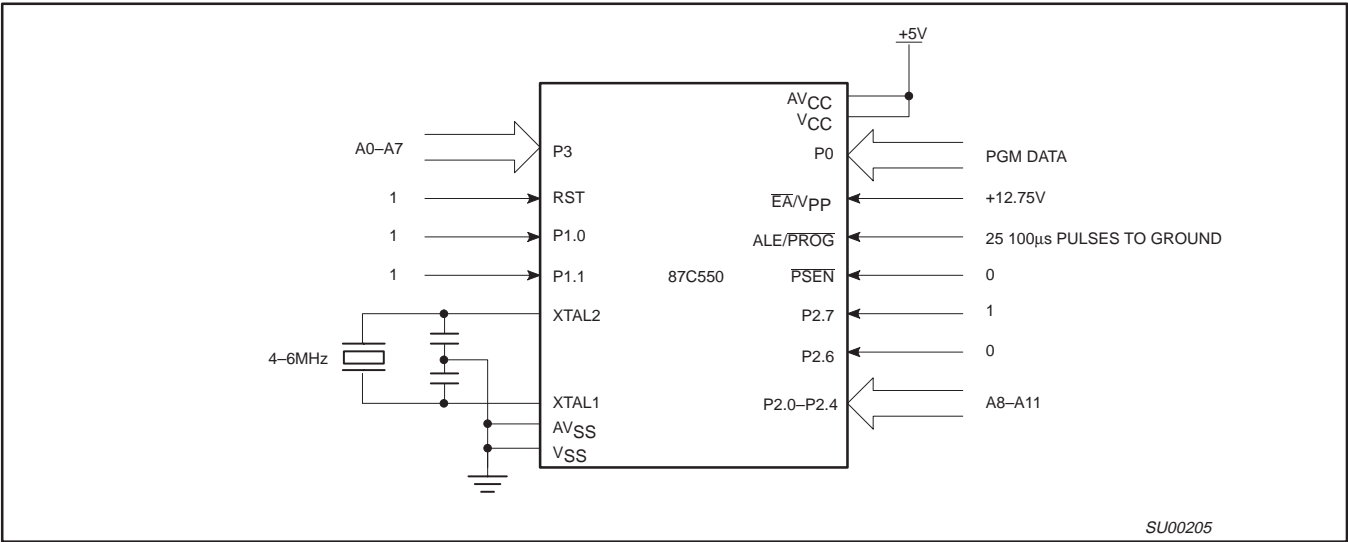
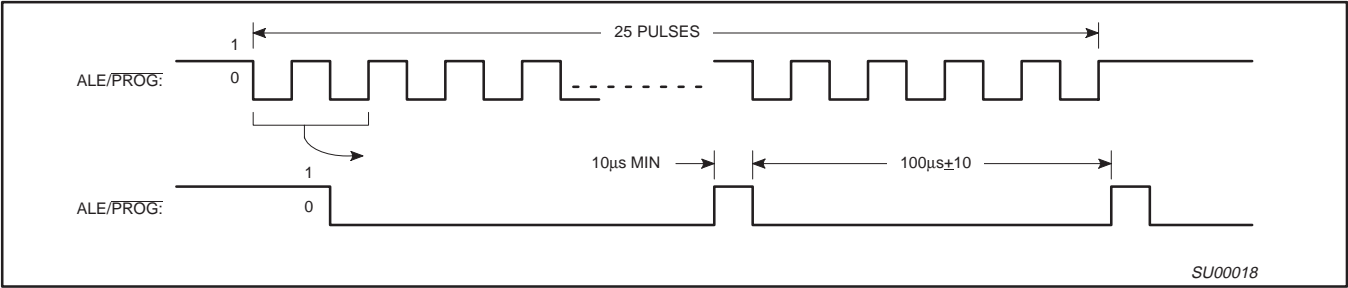
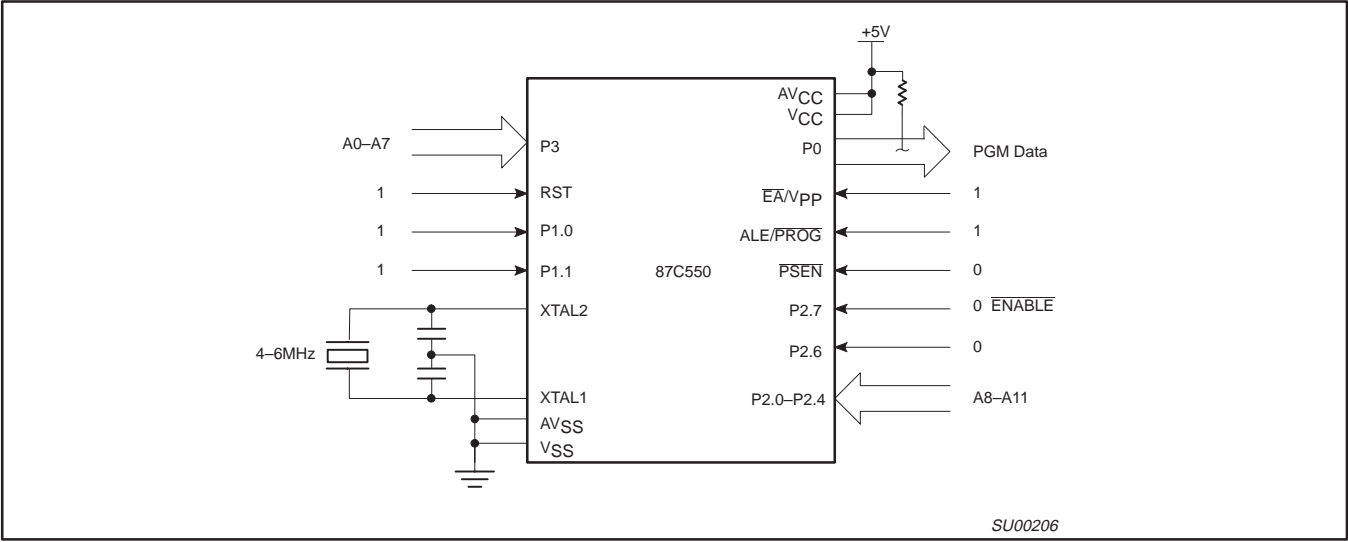

Figure 17. Programming Configuration
Figure 18. PROG Waveform
Figure 19. Program Verification
Table 4 shows the logic levels for reading the signature byte, and for programming the program memory, the encryption table, and the lock bits. The circuit configuration and waveforms for quick-pulse programming are shown in Figures 17 and 18. Figure 19 shows the circuit configuration for normal program memory verification.
The setup for microcontroller quick-pulse programming is shown in Figure 17. Note that the 87C550 is running with a 4 to 6MHz oscillator. The reason the oscillator needs to be running is that the device is executing internal address and program data transfers.
The address of the EPROM location to be programmed is applied to ports 2 and 3, as shown in Figure 17. The code byte to be programmed into that location is applied to port 0. RST, \overline{PSEN} and pins of ports 1 and 2 specified in Table 4 are held at the 'Program Code Data' levels indicated in Table 4. The ALE/PROG is pulsed low 25 times as shown in Figure 18.
If security bit 2 has not been programmed, the on-chip program memory can be read out for program verification. The address of the program memory locations to be read is applied to ports 2 and 3 as shown in Figure 19. The other pins are held at the 'Verify Code Data' levels indicated in Table 4. The contents of the address location will be emitted on port 0. External pull-ups are required on port 0 for this operation.
- * FOR PROGRAMMING VERIFICATION, SEE FIGURE 17.
FOR VERIFICATION CONDITIONS, SEE FIGURE 19.